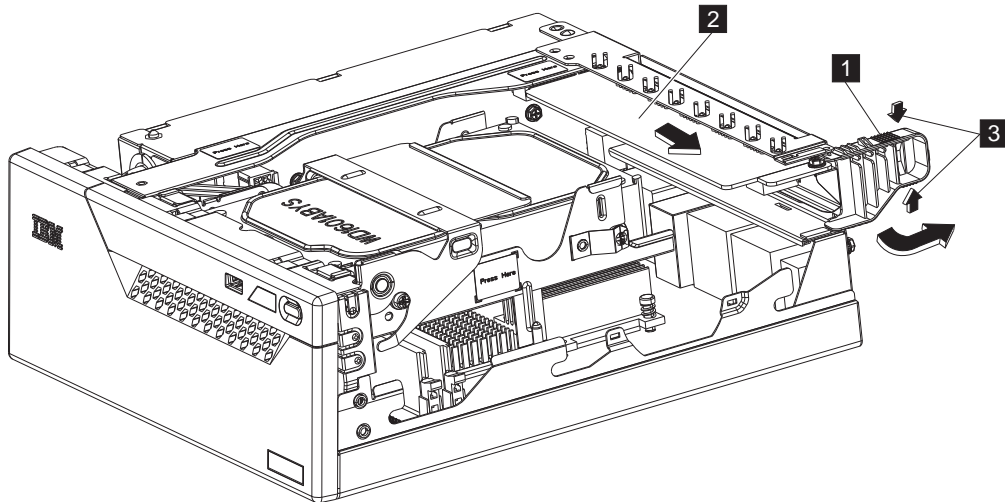

Figure 24. Removing the I/O connector card
The removal and installation instructions are the same for both the Models x5x and x4x; however, Figure 24 is a diagram of the Model x4x unit.
2. Squeeze the blue plastic connector-card retainer at the top and bottom (where the two small arrows **3** are located in Figure 24) to unlatch. Rotate the I/O connector-card retainer outward to the open position **1** as shown.